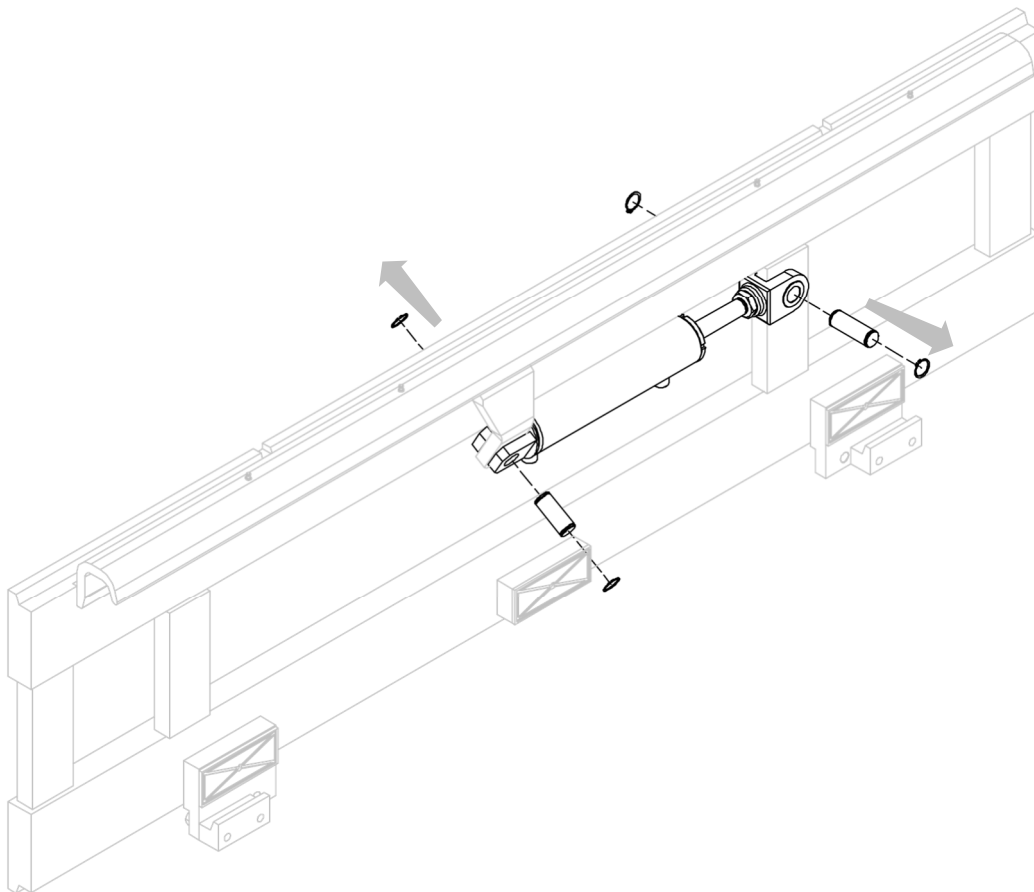

Figure 21
4. Remove the pins (with their snap rings) that hold the cylinder (see *Figure 21*).